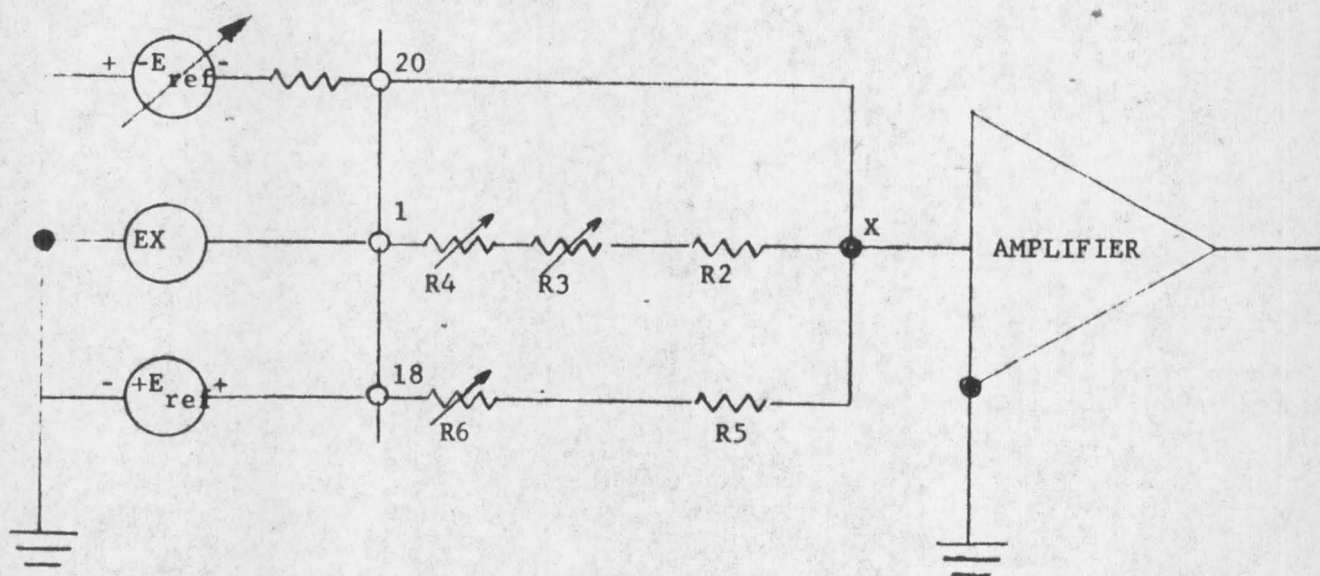

Figure 2
4. CIRCUIT DESCRIPTION (See figures 2, 3 and 4)
5. Resistance Adder Network - The resistance adder network receives three inputs. The analog input is received through P1 pin 1 to R4, the resistor matrix input is applied to pin 20, and a +10-volt reference is applied to pin 18. The analog input is the input applied to the complete A-D converter equipment and is the voltage analog desired to be converted into digital form. The resistor matrix provides a precision voltage dependent upon its selected resistance value in combination with a reference power supply (600085). The 600085 in addition provides a +10-volts reference which is used as an offsetting voltage to provide A-D bipolar operation. Refer to figure 2 for a simplified schematic of the resistance adder network. Note that when a unipolar converter is required a selector contained on the module can be changed to select ground instead of +10 volts reference (See figure 3).